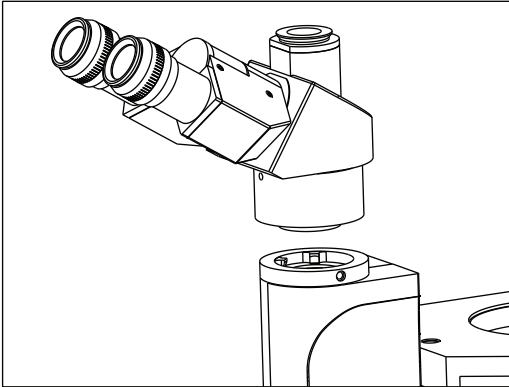

Fig. 4
Install the observation head using the following procedure as shown in Fig. 4:
1. Using the 3mm allen wrench (provided), loosen the Head Locking Screw (1) and remove the dust cover cap provided in dovetail cavity as well as on the observation head dovetail.
3. Tighten the Head Locking Screw (1) after positioning the Observation Head as desired. See figure 4.